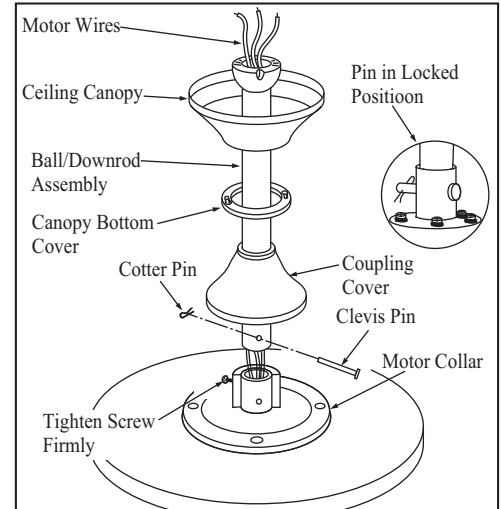

Figure 5
3. Remove the clevis pin, cotter pin and set screws from the top of the motor assembly. (Figure 5)
4. Route wires exiting from the top of the fan motor through the coupling cover, canopy bottom cover, canopy and then through the ball/downrod. (Figure 5)
5. Align the holes at the bottom of the downrod with the holes in the coupling on top of the motor housing (Figure 5). Carefully insert the clevis pin through the holes in the collar and downrod. Be careful not to jam the clevis pin against the wiring inside the downrod. Insert the cotter pin through the hole near the end of the clevis pin until it snaps into its locked position, as noted in the circle inset of Fig. 5.
6. Tighten two set screws at top of the fan motor collar firmly and evenly. (Fig. 5)